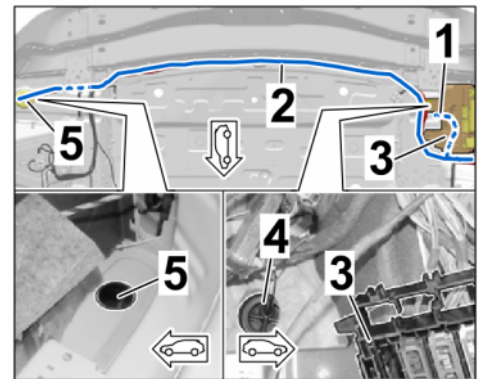

Figure 32
3.2.4 Rear end plate area and grommet / stopper for boot floor (⇒ Figure 32)
- Branch for exhaust flap (left) to grommet / stopper for boot floor, left (beneath fuse box in boot (left) → branch for exhaust flap on the right to rear closing panel → along rear closing panel (⇒ Figure 32-top-) → grommet / stopper for boot floor, right.